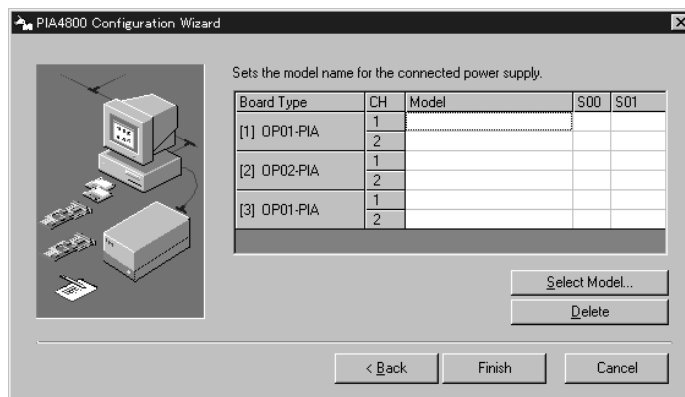
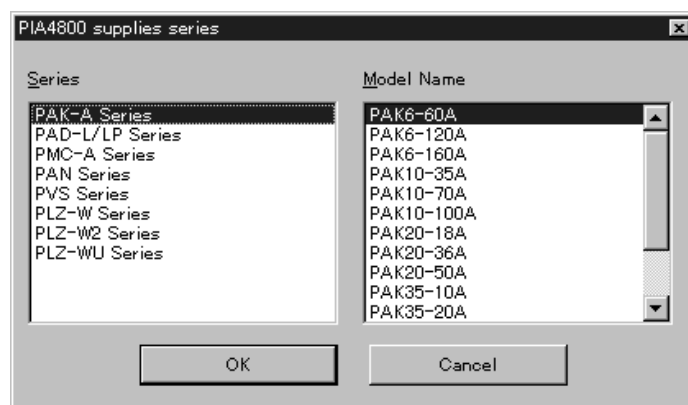

Fig. 3-8 Set the model name for the connected power supply
Fig. 3-9 Series and Model Name
- In the dialog shown in Fig. 3-8, the S00 and S01 boxes display the settings for the switches on the control board. S00 represents S100 or S200, and S01 represents S101 or S201.
- The dialog shown in Fig. 3-8 does not display DC power-supply units with a digital remote-control function, such as those in the PMR series.
8. In the dialog shown in Fig. 3-8, specify the DC power-supply unit to be connected to each channel.
9. In the dialog shown in Fig. 3-9, click on the DC power-supply unit to be connected, and then click on the [OK] button. The DC power-supply units selected in the Model box in the dialog shown in Fig. 3-8 are then displayed.